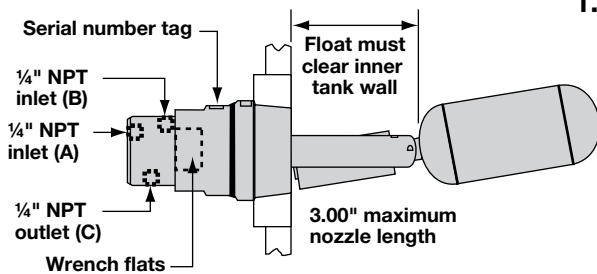

Figure 1
1. Ensure that the length and inside diameter of the mounting nozzle are sized correctly to allow for switch actuation at design levels. Refer to Figure 1.
3. Using a pipe wrench, rotate the unit clockwise until threads are tight in mounting. Ensure that the serial number plate is on top. See Figure 1.
2. Connect the inlet air line to the ¼" NPT connection for either air inlet A or air inlet B, depending on the valve action desired (refer to Figure 3). Inlet air pressure should be between 0–200 psig. Refer to Figure 1 for location of air inlets.
3. Connect outlet air line to the ¼" NPT connection on the bottom of the valve. This air outlet is designated with a "C". Refer to Figure 1 for location.
1. Use only the 2" wrench flats to install or remove the unit. Refer to Figure 1. Use of any other surface could change the calibration. The valve body is calibrated at the factory and locked in place.